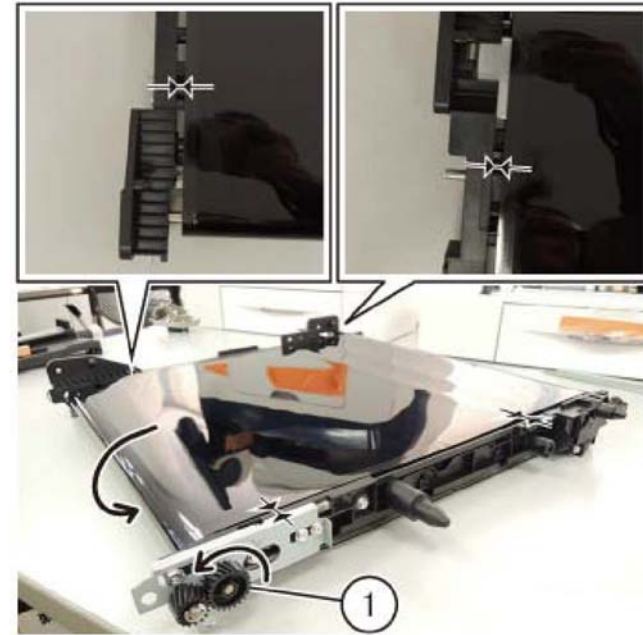

Figure 16 Tension plates with IBT belt unit
- Before returning the front/rear tension plate to the original state, turn the IBT belt to make the IBT belt even, Figure 16.